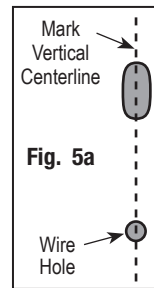

Fig. 5a
**Important:** If the manufacturer has not pre-drilled the door, prepare the door per instructions below, using plastic template included with the device. Screw hole orientation is not affected by handing. (See Figures 5a-5d). If the door is pre-drilled by the manufacturer, continue to instructions on the following page.
1. Mark vertical centerline of slot and wire hole on door. (See Figure 5a).